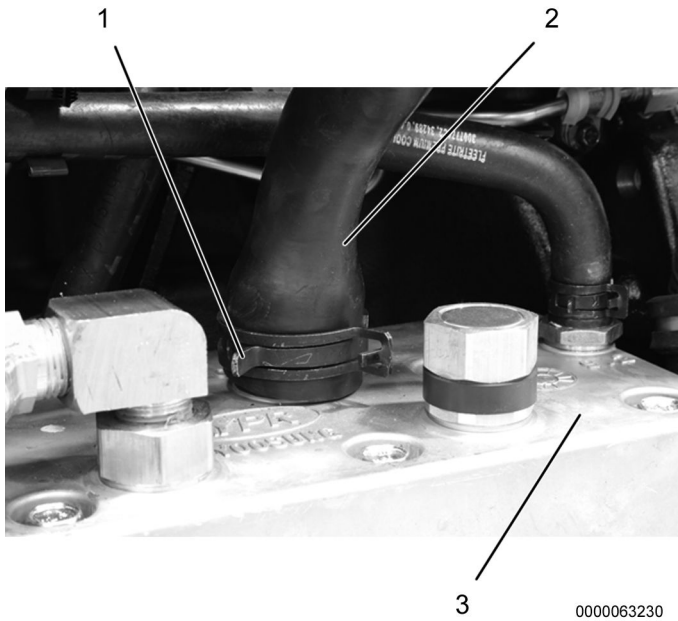

Figure 4. Air Compressor Inlet Hose.
12. Loosen hose clamp (Figure 4, Item 1) and disconnect air compressor inlet hose (Figure 4, Item 2) from air compressor (Figure 4, Item 3) and install cap ZTSE4891.